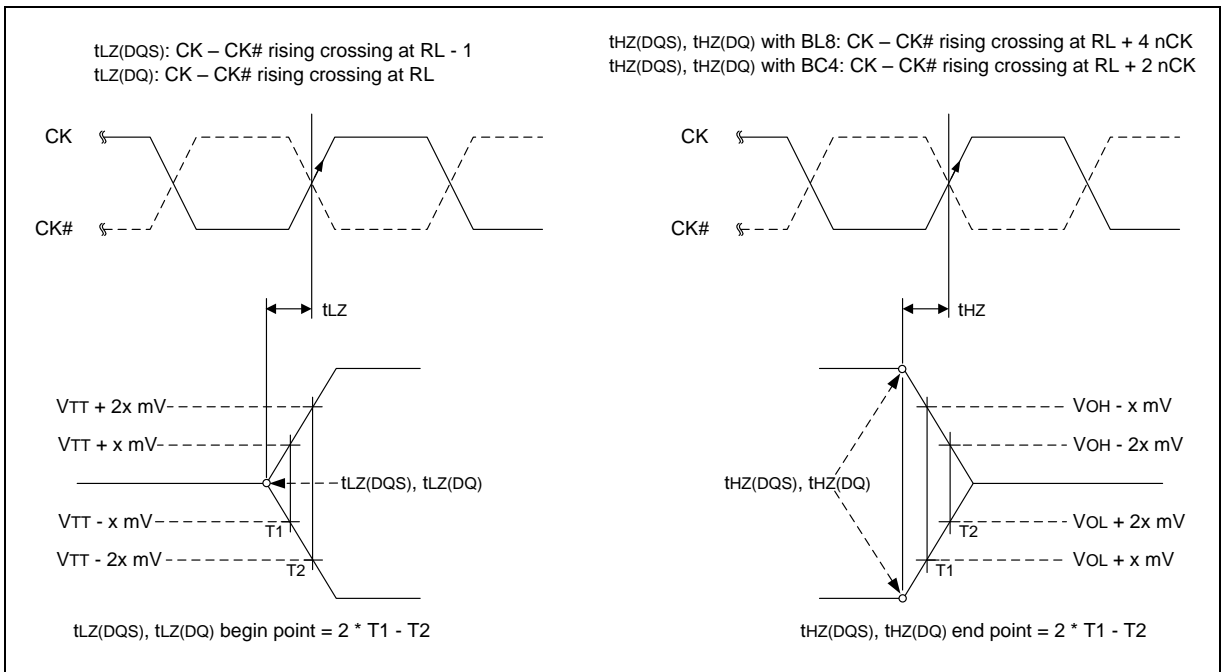

Figure 26 – tLZ and tHZ method for calculating transitions and endpoints
tLZ(DQS), tHZ(DQS) for preamble/postamble (see section 7.13.2.3 and Figure 26).
7.13.2.3 tLZ(DQS), tLZ(DQ), tHZ(DQS), tHZ(DQ) Calculation
tHZ and tLZ transitions occur in the same time window as valid data transitions. These parameters are referenced to a specific voltage level that specifies when the device output is no longer driving tHZ(DQS) and tHZ(DQ), or begins driving tLZ(DQS), tLZ(DQ). Figure 26 shows a method to calculate the point when the device is no longer driving tHZ(DQS) and tHZ(DQ), or begins driving tLZ(DQS), tLZ(DQ), by measuring the signal at two different voltages. The actual voltage measurement points are not critical as long as the calculation is consistent. The parameters tLZ(DQS), tLZ(DQ), tHZ(DQS), and tHZ(DQ) are defined as singled ended.